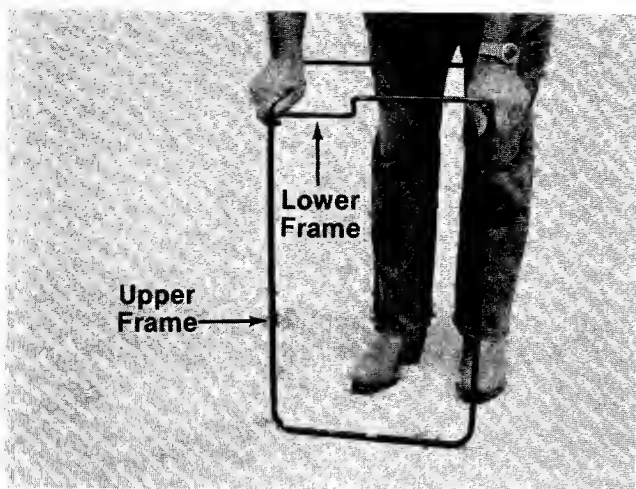

FIGURE 9.
1. Join the upper frame and lower frame assembly as shown in figure 9.